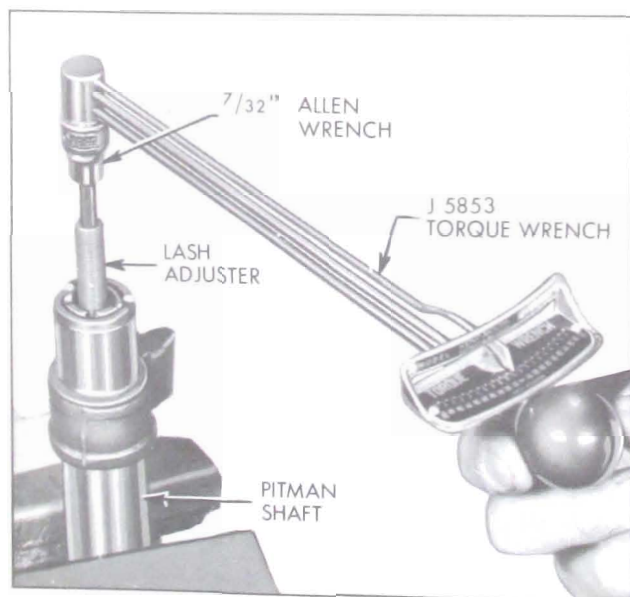

Figure 8-45—Checking Torque on Lash Adjuster
3. Check the torque on the lash adjuster. See Figure 8-45. If torque exceeds 15 inch pounds, pitman shaft assembly should be replaced.